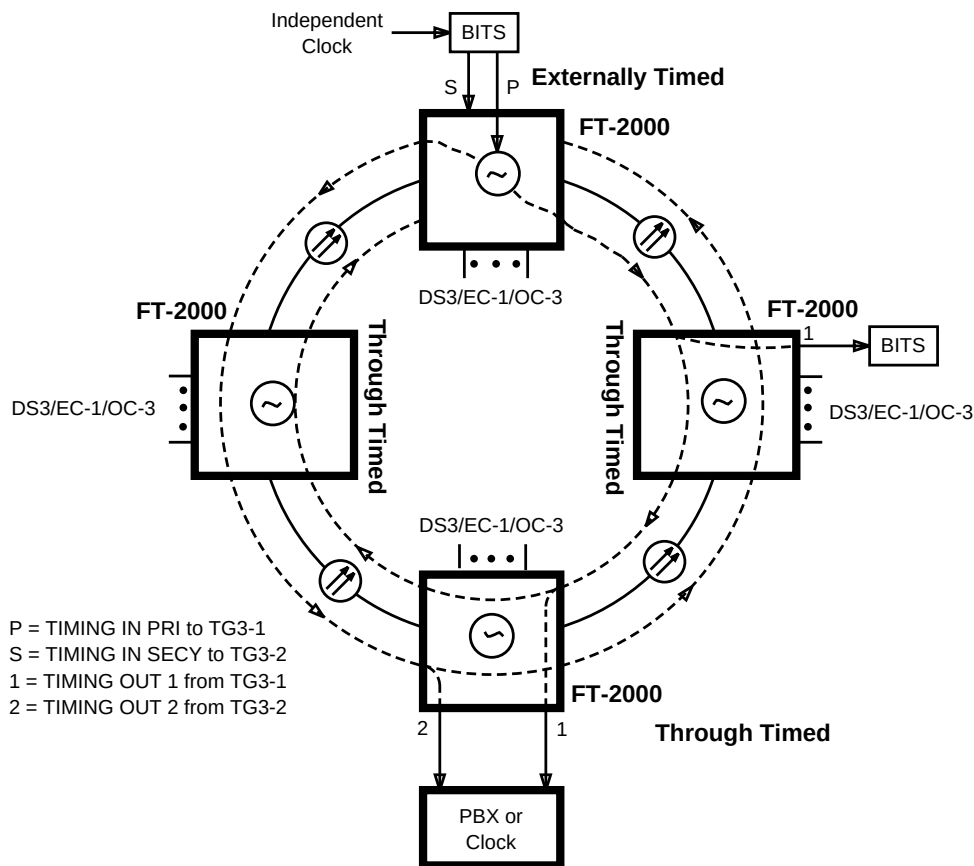

Figure 5-23. Example of a Ring Application with One Node Provisioned Externally Timed and All Other Nodes Provisioned Through Timed (with Timing Drops)
- One node provisioned externally timed; all other nodes provisioned through timed or externally timed:** In this configuration (Figure 5-23 and Figure 5-24), at least one node should be provisioned externally timed (phase locked in releases prior to Release 5), and any nodes that drop timing signals should be provisioned through timed. All other nodes should be provisioned externally timed or through timed.